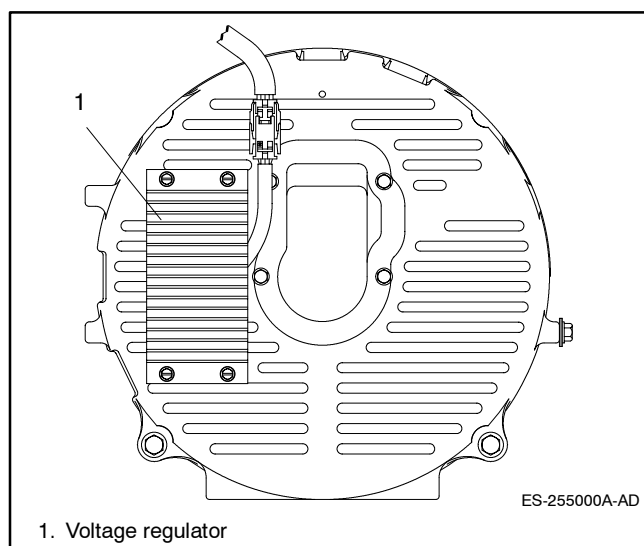

Figure 6-2 Generator End Bracket
8. Remove voltage regulator from end bracket by removing four mounting screws. Disconnect wiring harness to remove regulator. See Figure 6-2.